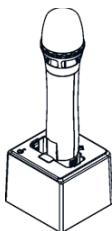
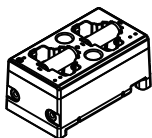

Fig. 16:
Fig. 18:
1. Transmitter(s) can be recharged by docking into a MP-8 or MP-80 charger, Fig. 16 and 17. Or charge up to two 18500 batteries in MP-80, Fig. 18.
2. MP-8 Single-slot Docking Charger, Fig. 16.